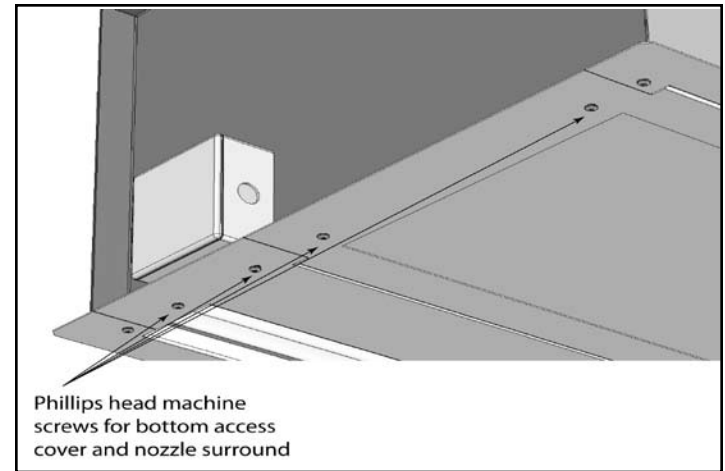

Figure 6
- B. Remove the bottom access cover by removing (4) Phillips head machine screws located at the cover's corners. **See Figure 6.**
**See Figure 6.**
3. If desired, the nozzle surround may be removed to provide more working room. To remove the nozzle surround, remove the (4) Phillips head machine screws from the corners. The Intelliswitch® ribbon cable must also be disconnected from the back of the display circuit board before the nozzle surround can be set aside.
5. If the unit has electric heat, the heaters need to be disconnected from supply wiring. Each fan housing will have a heating element on both of its sides, spanning the inlet venturi. Each heating element will have (2) ¼" quick disconnects for power supply wiring. In addition, the heating elements located on the outside of the module will have (2) ¼" quick disconnects for the auto reset